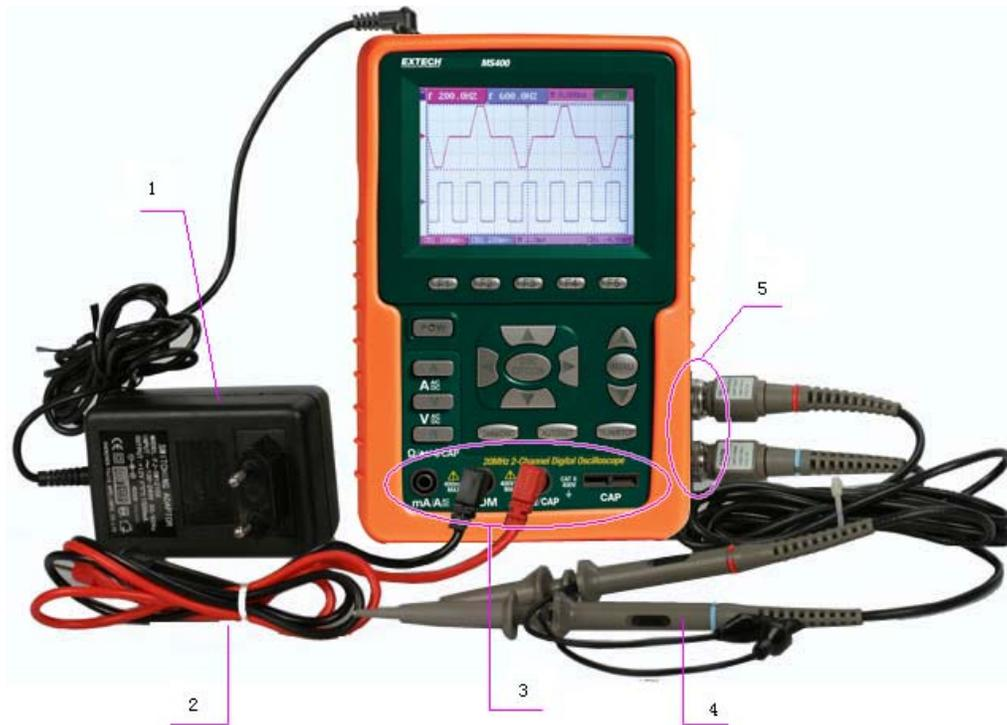

Figure 2
- Connect the oscilloscope to AC power via the power adapter as shown in Figure 2